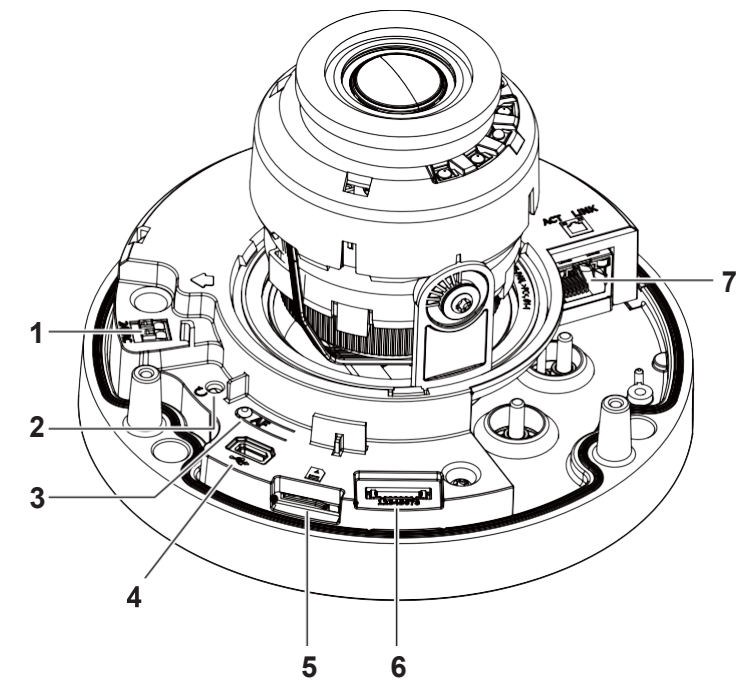
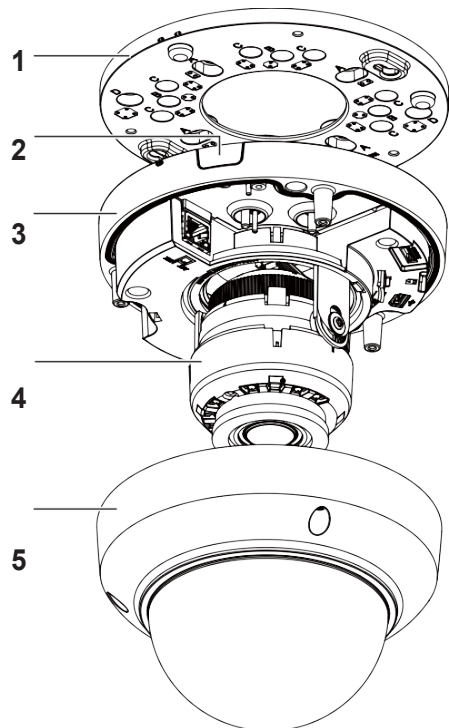

Figure 2
Figure 1
4. Unscrew the three screws on the camera dome (5) (Figure 1) to remove the dome from the camera base (3) (Figure 1).
Camera buttons and connections: Figure 2
Camera Parts: Figure 1
7. Before you lock the mounting plate (1) (Figure 2) to the camera base you must place the cable through the cable side entry slot on the camera base (2) (Figure 1) **or** through the cable hole in the camera mounting plate.